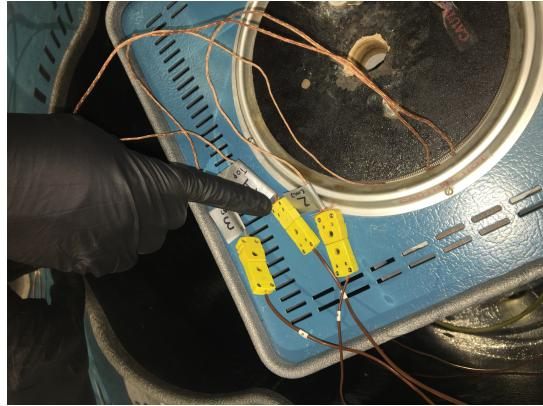

Figure 2: Thermocouples connections
5. Ensure the furnace thermocouples are connected to their corresponding connectors inside the vessel and ensure that the wires are tucked down between the side of the furnace and the wall of the vessel and are out of the way (see Figure 2)